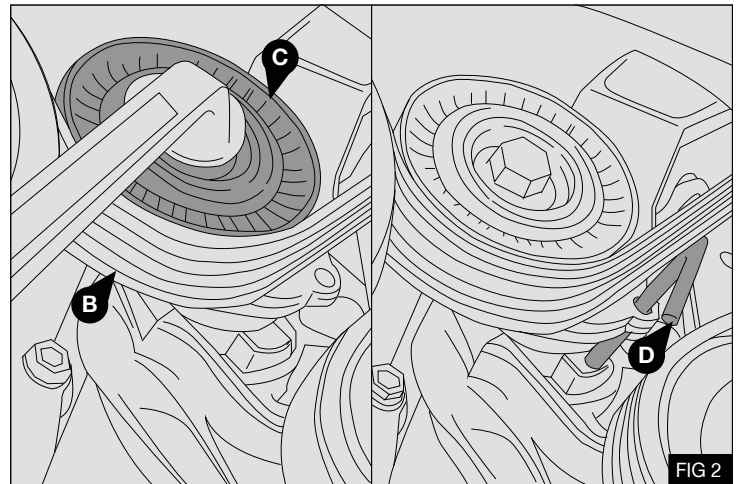

FIG 2
3. Mark the direction of rotation of the original alternator belt (B) rotate the automatic tensioner (C) clockwise and insert a 4mm locking pin in position (D). Remove and retain the original belt (B) - Fig 2